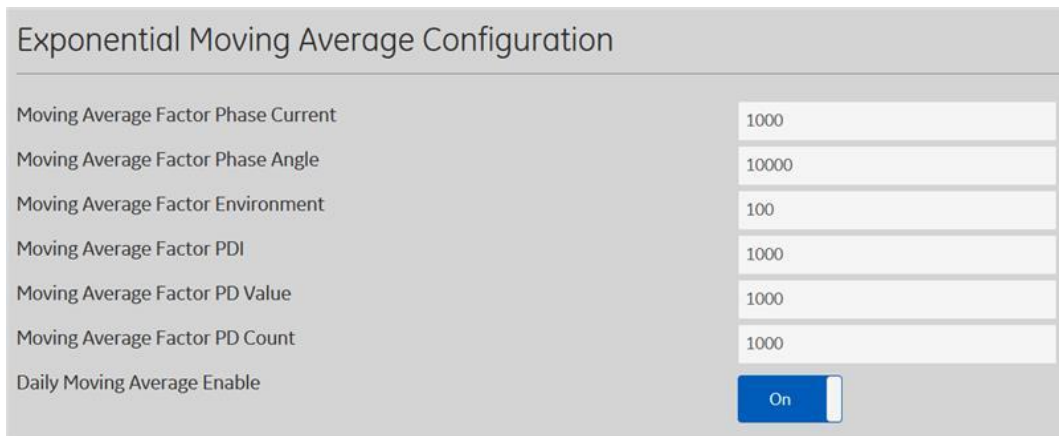

Figure 10-27: Exponential Moving Average Configuration
- Select **BMT > Configuration** as shown in Figure 10-27 to verify the ‘Exponential Moving Average Configuration’. Ensure that: